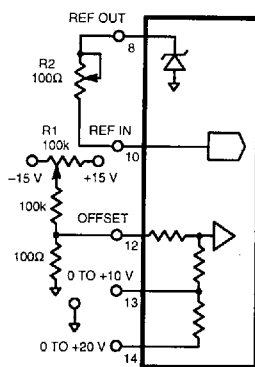

Figure 3. Unipolar Operation with Trim Adjustments
**Unipolar Mode:** Connect MP674 as shown in *Figure 3*. R1 is used to adjust the converter offset so that an input voltage equivalent to 1/2 LSB will produce the first change in the output codes (0000 0000 0000 to 0000 0000 0001). This input is 1.22 mV for the 10 V scale (pin 13) or 2.44 mV for the 20 V scale (pin 14). Using one of these inputs, R1 should be adjusted until the output flickers between the above code values.